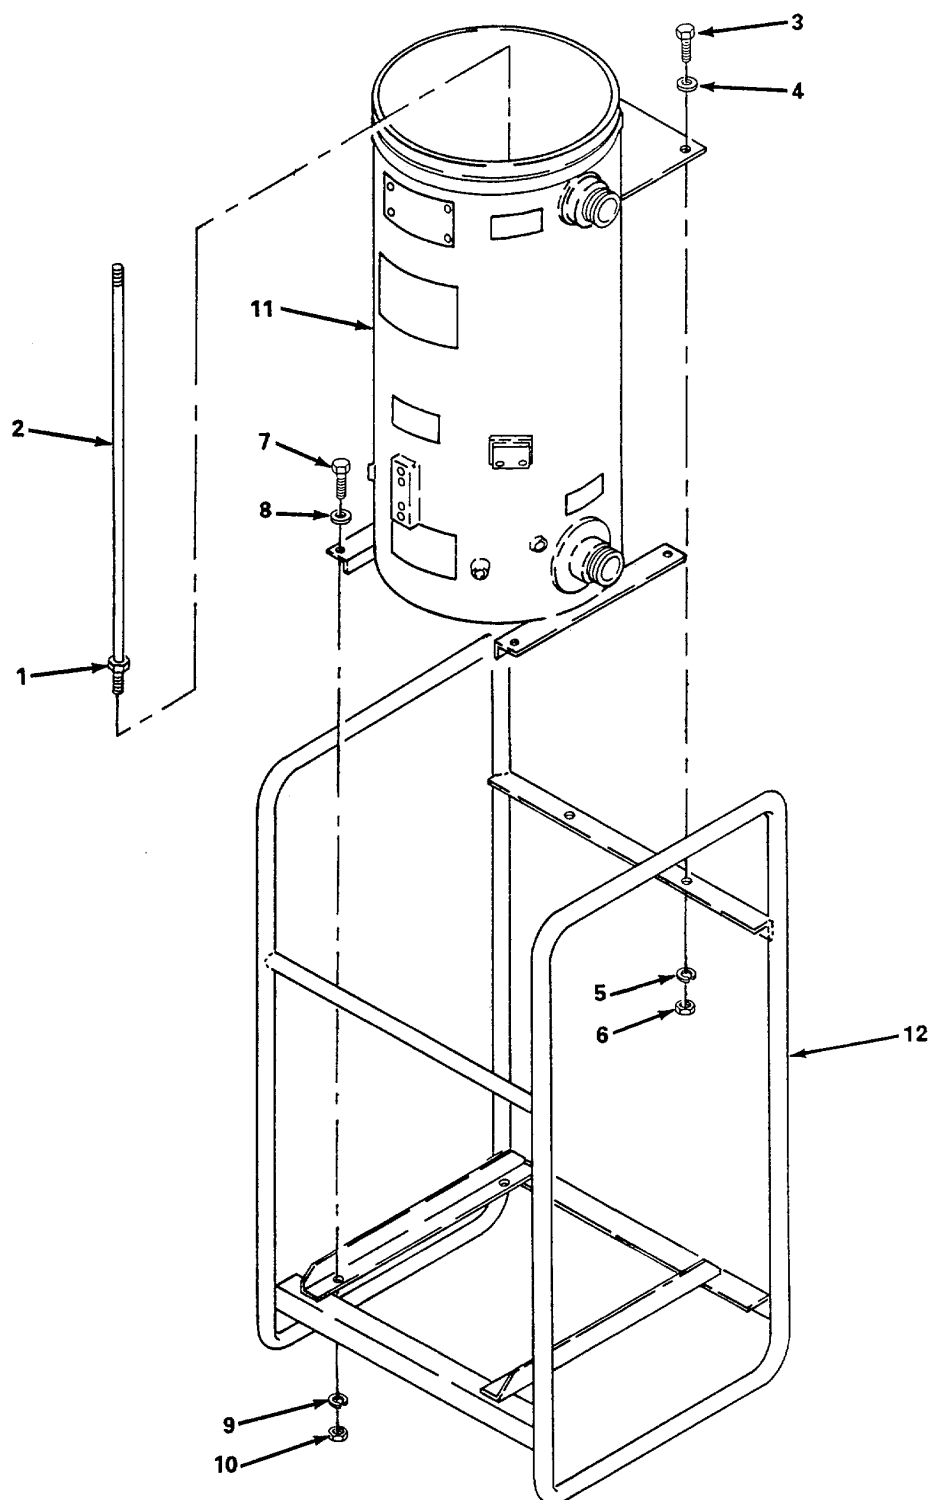

Figure 4-6. Tank, Replace.
**Replace.** (figure 4-6)
- (1) Loosen nut (1) and remove rod (2).
- (2) Remove two bolts (3), washers (4), lockwashers (5), and nuts (6).
- (3) Remove four bolts (7), washers (8), lockwashers (9) and nuts (10) and remove tank (11).
- (4) Install tank (11) on frame (12).
- (5) Install rod (2) and tighten nut (1).
- (6) Install four bolts (7), washers (8), lockwashers (9) and nuts (10).
- (7) Install two bolts (3), washers (4), lockwashers (5) and nuts (6).
- (8) Install differential pressure gage (para. 4-21).